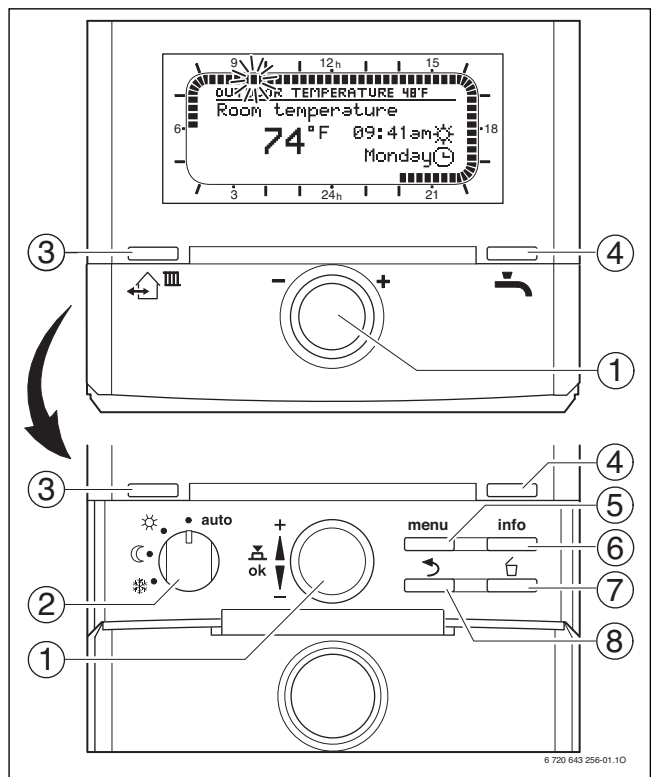

Fig. 62 FW 200 heating control with front flap closed / flap opened
Legend to Fig. 62:
In the following description, at any time, pressing the menu button (→ Fig. 62, [3]) will bring you back to the standard display.
- ▶ Turn the dial (→ Fig. 62, [1]) to adjust time and date.
- ▶ Press and hold the menu button (→ Fig. 62, [5]) until this prompt disappears.
- ▶ Press the menu button (→ Fig. 62, [5]).
- ▶ Turn the dial (→ Fig. 62, [1]) counter-clockwise until **General settings** is highlighted.
- By turning the selector (→ Fig. 62, [2]) to the comfort symbol (☼).
- ▶ Press the menu button (→ Fig. 62, [3]).